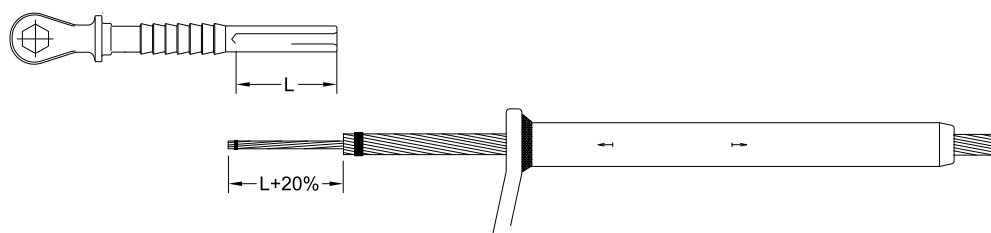

Fig. 1
- 2 Marcar, retencionar y cortar los hilos de aluminio dejando al descubierto el alma de acero en una longitud de aproximadamente un 20% superior a la profundidad del taladro del émbolo (**Fig.1**). Es muy importante no dañar el alma de acero al realizar esta operación. Retencionar el alma para evitar su destrenzado.
- 1 Insert the end of the conductor in the aluminium body so that it protrudes from the back, as shown in **Fig.1**. Retain the end, with steel wire or a plastic clip, to prevent the wires from loosening when it comes out of the rear part.
- 2 Mark, retain and cut the aluminium strands, leaving the steel core exposed by a length of approximately 20% greater than the length bore of the steel terminal (**Fig.1**). It is very important to avoid making any notches in the steel wires when performing this task. Retain the core to prevent the wires from loosening.